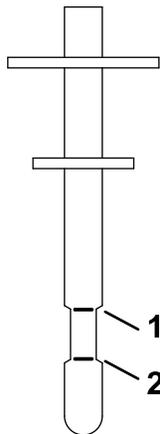

Figure 69
- Place the dipstick into the filler neck, remove it, and check the fluid level (Figure 69).